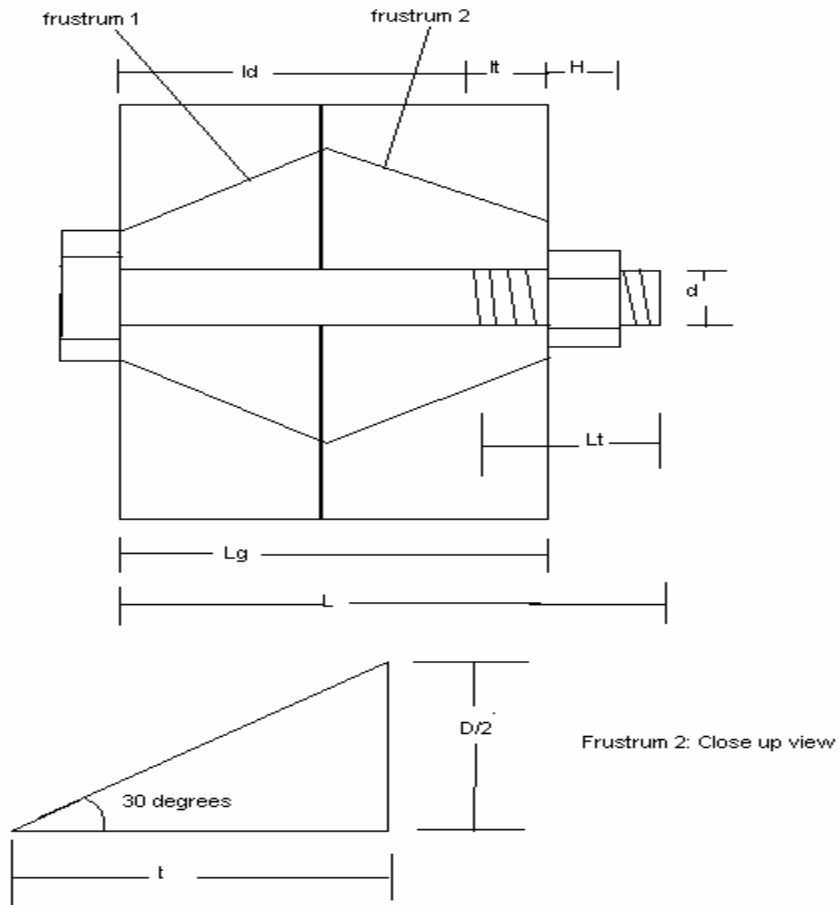

Figure 1
In the stress analysis, the first step is to find the stiffness of the bolt and the member (k_m and k_b). The stiffness of the member is dependent on the stiffness of the members. The frustum begins from the head of the bolt and extends along the bolt at thirty degrees from the horizontal. It is at its widest at half the length of the member being clamped together. Its beginning width is $1.5 \cdot d$. A new frustum must be started whenever the material being clamped changes. For more explanations on calculating frustums, refer to Figure 1. The equation for calculating the stiffness of each frustum is:
$k_b = (A_d * A_t * E) / (A_d * l_t + A_t * l_d)$. The joint constant (C) can then be calculated with the following equation: $C = k_b / (k_m + k_b)$ For further instruction on calculating the stiffness of the bolt, refer the bolts poster and figure 1.